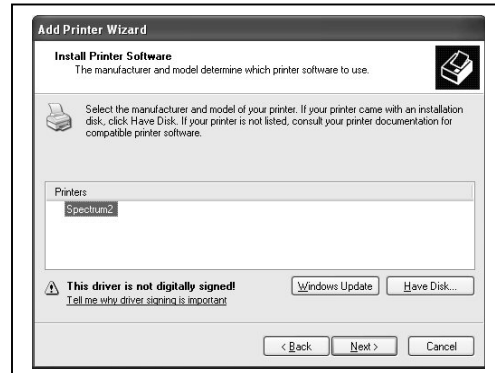

fig 7
7. After specifying the driver for the Spectrum 2 printer, the printer “Spectrum2” will appear in the “Add Printer Window” (fig 7). Click Next to continue.